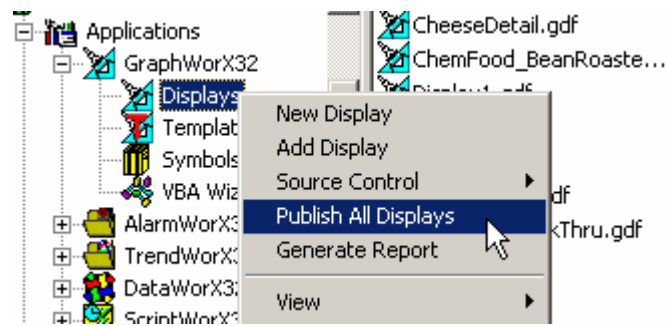

Figure 4.29. Launching the Web Publishing Wizard
1. Select the project root and then choose **Publish Wizard** from the **Tools** menu, or right-click on the **Applications/GraphWorX/Displays** tree and select **Publish All Displays**, as shown in **Figure 4.29**.